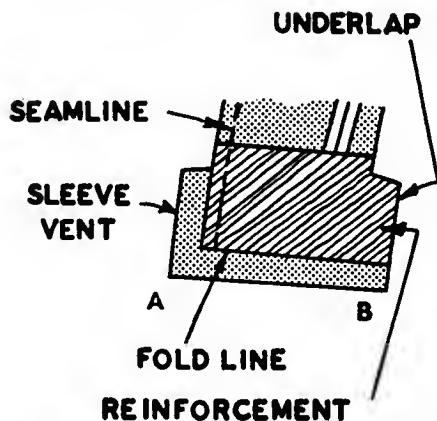

Fig. 214. Making the cuff.
- C. On the underlap edge, cut the shape of the sleeve, and on the overlap side cut straight just beyond the seamline (Fig. 214).
- D. Trim the wigan the seam allowance width on the upper sleeve edge at A in Figure 214. Trim the wigan  $\frac{1}{4}$  in. on the vent edge, B.